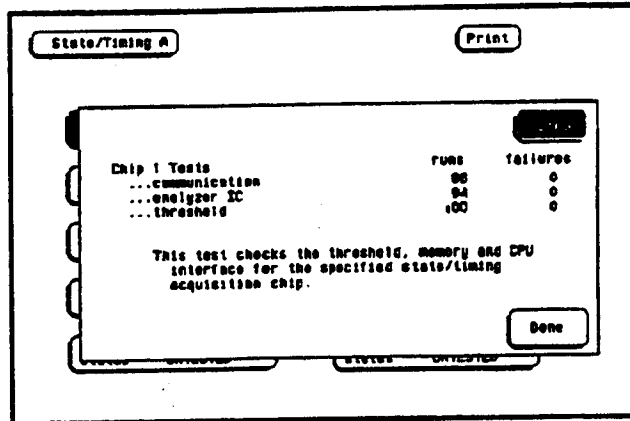

Figure 6-7. Stop Field
j. To stop a Repetitive run, touch **Stop**. See figure 6-7. To exit the test touch **Done**.